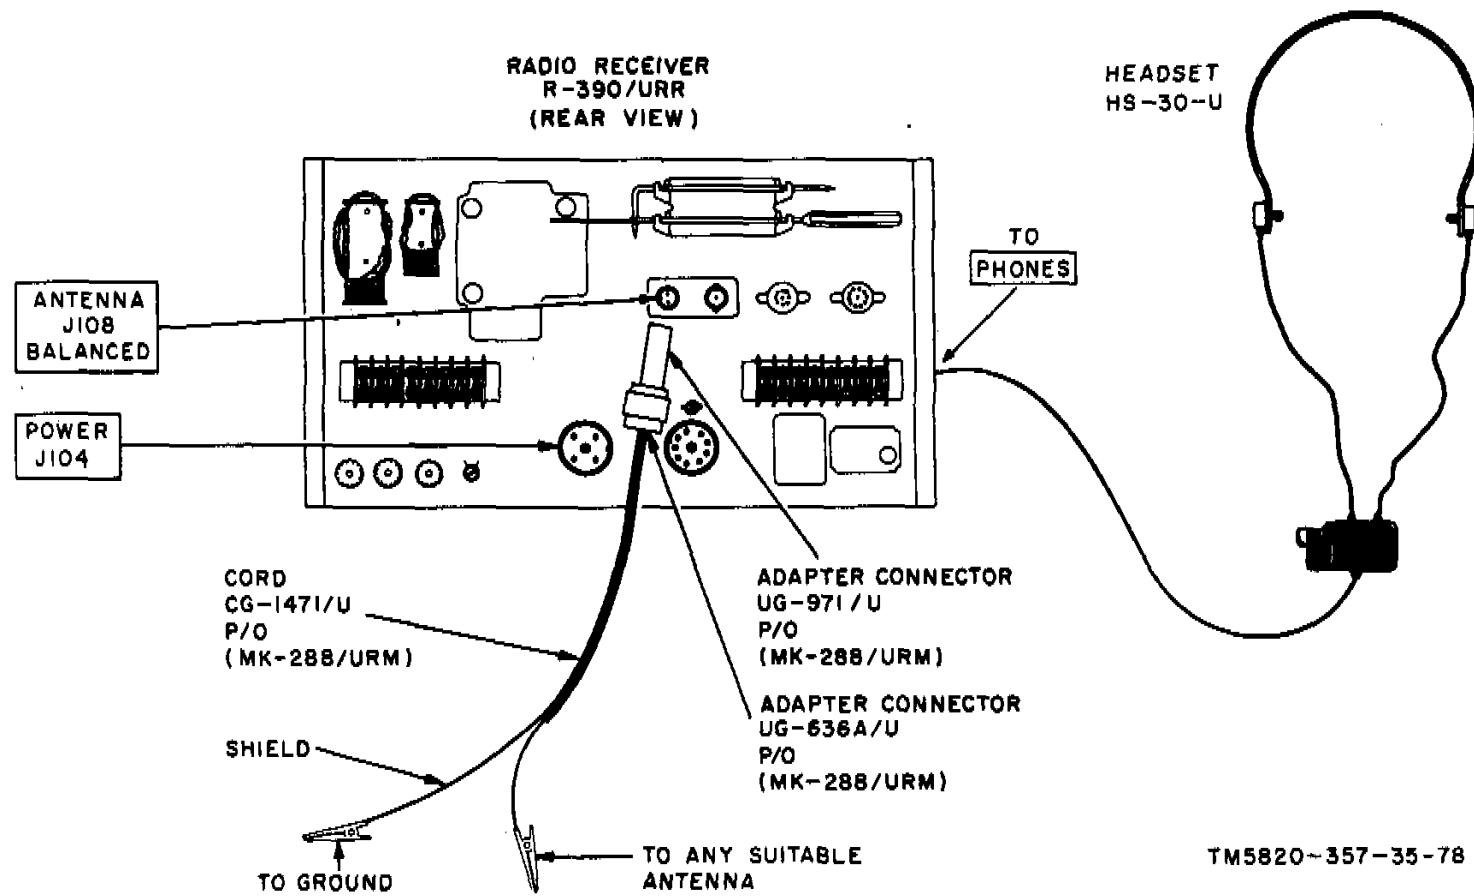

Figure 53. Operational test setup.
(fig. 53)
*b. Test Connections and Conditions.* Connect the equipment as shown in figure 53. Dial indicators should light.